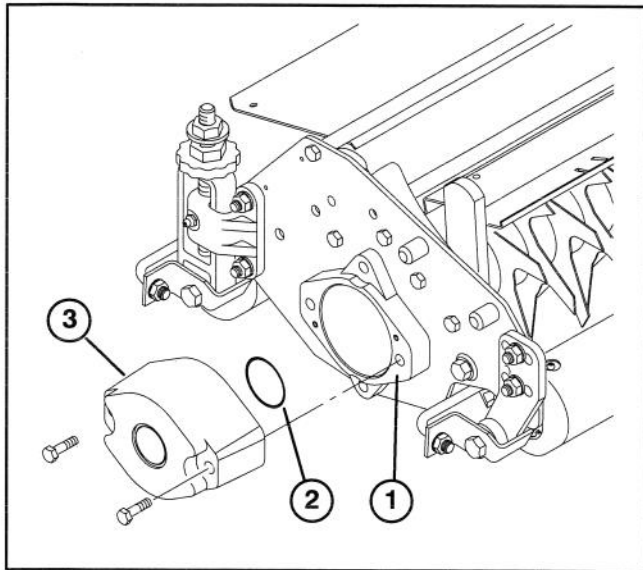

Figure 6
4. Lubricate and install a large O-ring into bearing housing groove on each end of dethatcher unit (Fig. 6 & 8).
5. Install a counter weight onto appropriate end of each cutting unit with capscrews provided (Fig. 6).